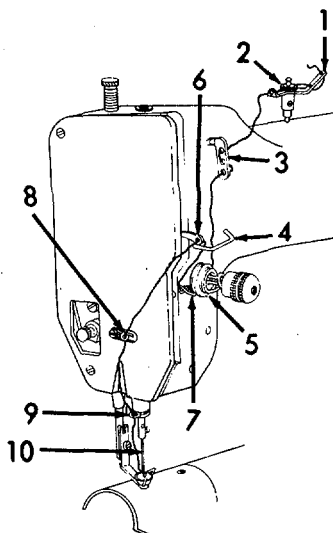

Figure 2-39. Threading the Sewing Machine.
(3) Refer to Figure 2-39. Using your hand, turn the machine pulley toward you until the take-up lever (6) is to its highest position.
(4) Pass the thread down and up through the hole in thread stand off (1) and to the left rear and between tension disk springs (2).
(5) Pass thread through upper thread guide (3) and down behind lower thread guide (4) as shown.